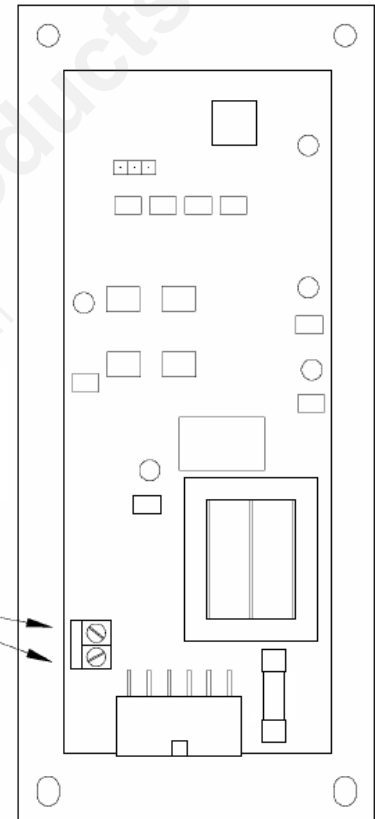

FIGURE 23
- The two thermostat wires connect to the terminal block on the lower left side of the back of the control board. (See figure 23)